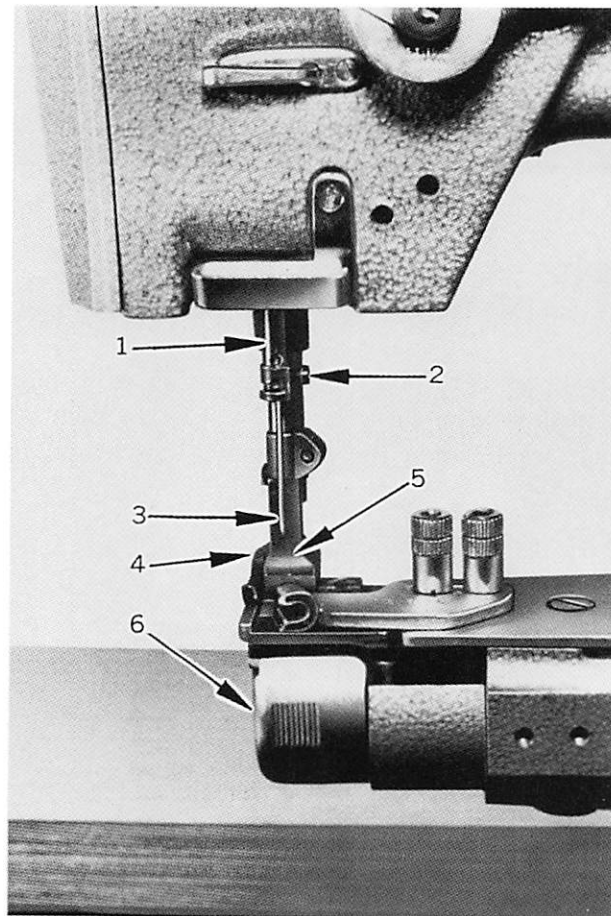

Fig. 3
## NEEDLE (Fig.3)
1. Raise the needle bar to its highest point. Draw out the end cover (6, Fig. 3)
- \* To adjust the lift, loosen the wing nut (1), move up the nut to raise the lift, and push down this nut to lower the lift.
- \* When altering the lift of the lifting presser foot (4, Fig. 3) unequally against that of the vibrating presser foot (5, Fig. 3) or vice versa, see the instructions "ADJUSTING THE HEIGHT OF THE PRESSER FEET".